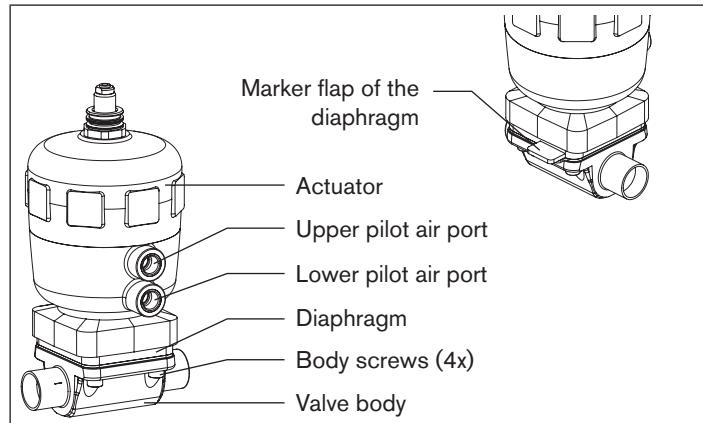

Fig. 18: Repairs
The marker flap of the diaphragm must be perpendicular to the direction of flow (see "Fig. 18")!
- Pressurize upper pilot air **port** of the actuator with compressed air (5 bar) (see "Fig. 18").